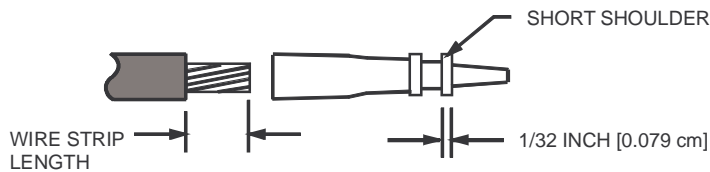

**Figure 4 Solid Taper Pin (KENT)**
- b. Prior to insertion into the pin, the wire must be stripped to allow the wire insulation to be inserted to the maximum depth of the insulated sleeve. (Wire shall not be tinned.) Wire strands shall be visible only at the inspection hole. (See Figure 4.)